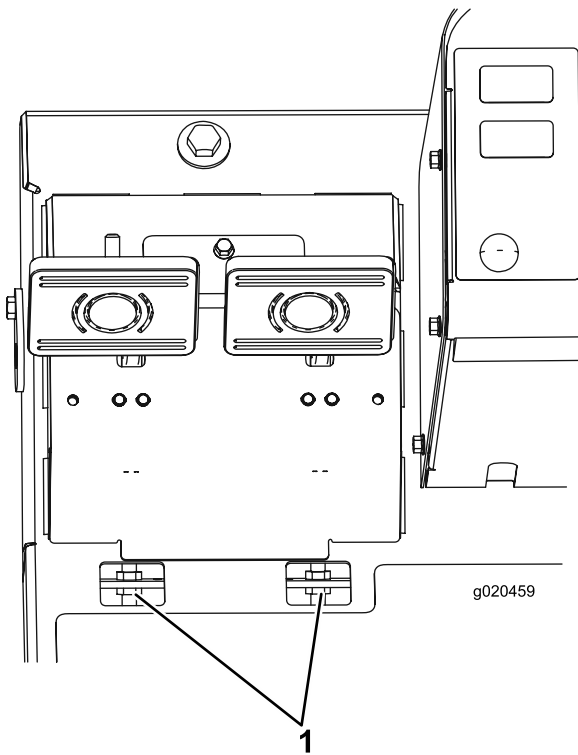

Figure 91
- B. Loosen the front nut on the threaded end of the brake cable (Figure 91).